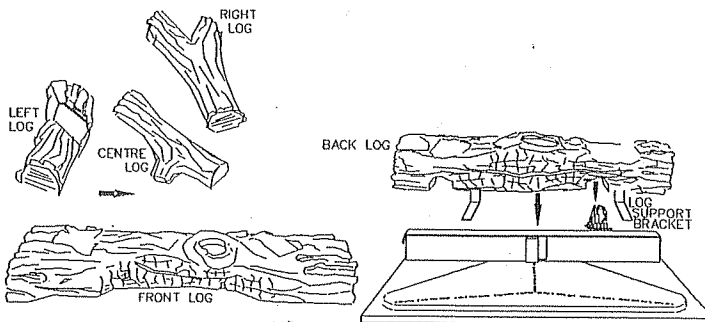

FIGURE 20
2. Place the back log onto the log support brackets located on the rear wall of the combustion chamber. The notch situated at the lower left of the back log should be centered evenly above the pilot assembly. **FIGURE 20.**